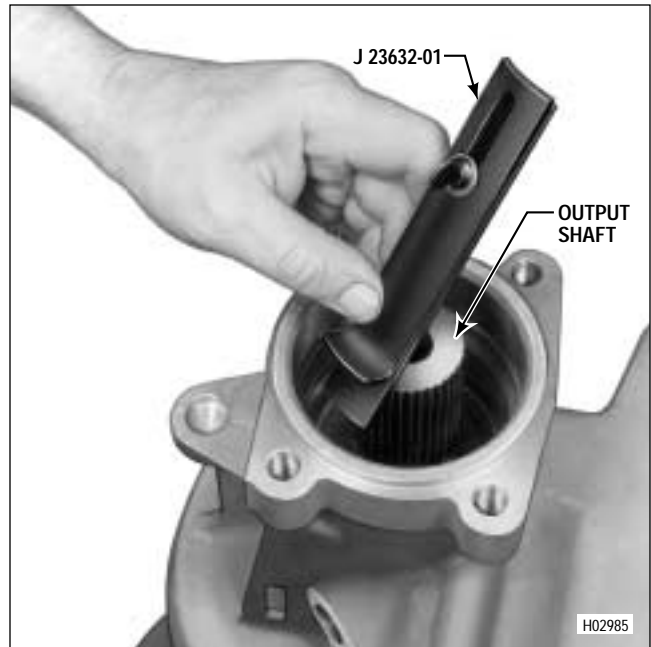

Figure 7-14. Measuring For Selection of Rear Bearing Spacer
(4) Using a soft drift, tap against the speedometer drive gear or speed sensor wheel to seat all the installed components.
(5) Loosen the thumbscrew on spacer selection gauge J 23632-01 and position the gauge against the output shaft (Figure 7-14). Push the straight member of the gauge against the rear of the speedometer drive gear. Push the lipped member against the rear bearing front snapping. It may be necessary to extend the slot on the gauge to obtain this measurement. When the gauge is in firm contact with these parts, and the concave side of the straight member is firmly against the output shaft, tighten the thumbscrew.